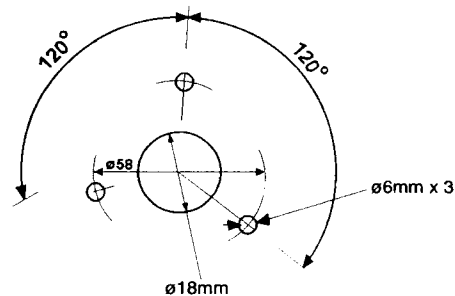

Fig.1
3. Fix the thermostat to the duct. The TDR stem uses 2 plates to clamp the duct wall and so access to the inside of the duct is required - see fig 1 for drilling details for the clamp fixing. Allow a sufficient length of cable to permit complete removal of the thermostat.